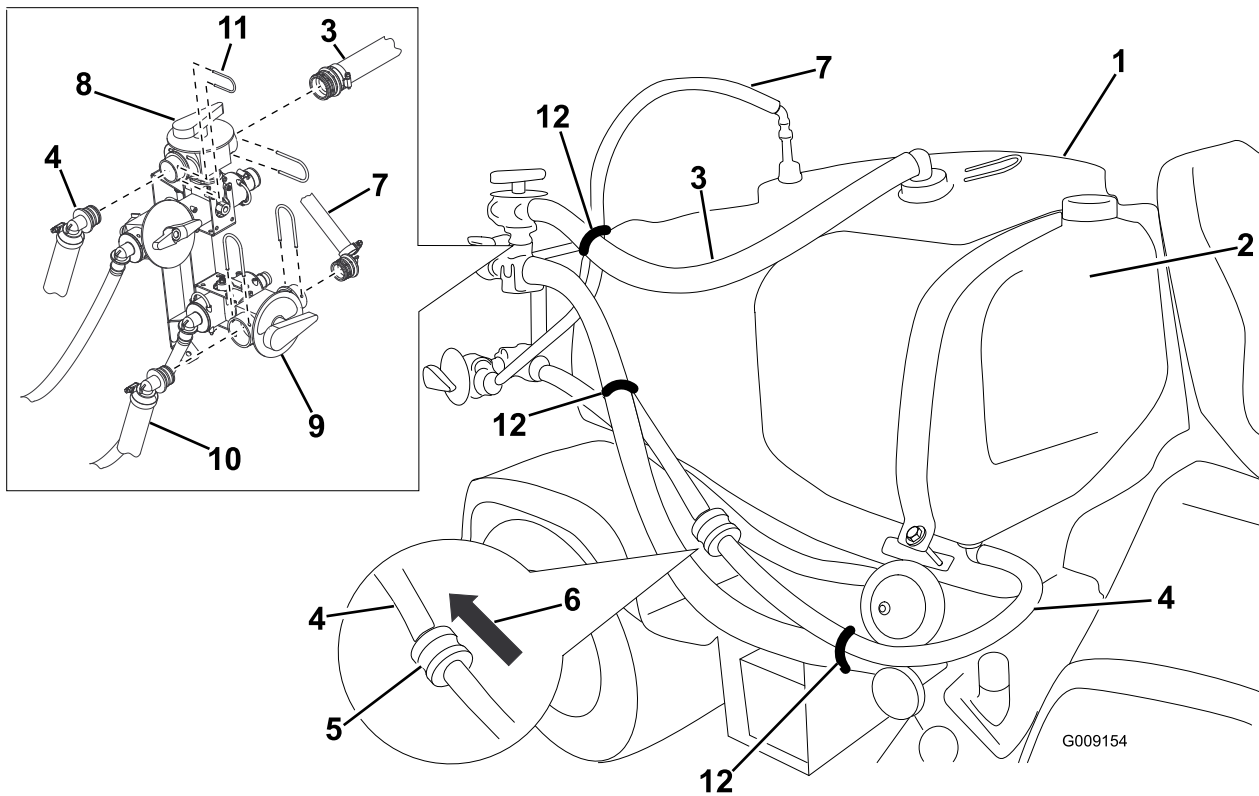

Figure 16
2. Install the hose from the main tank upper port to the main tank side of the rinse tank rinse valve (Figure 16).
6. Use the plastic ties located in loose parts to secure the rinse tank suction hose to the main pump hose as shown in Figure 16.
3. Plumb the hose under and behind the main pump and main tank suction hose, to the barbed elbow fitting in the rinse tube (Figure 16).